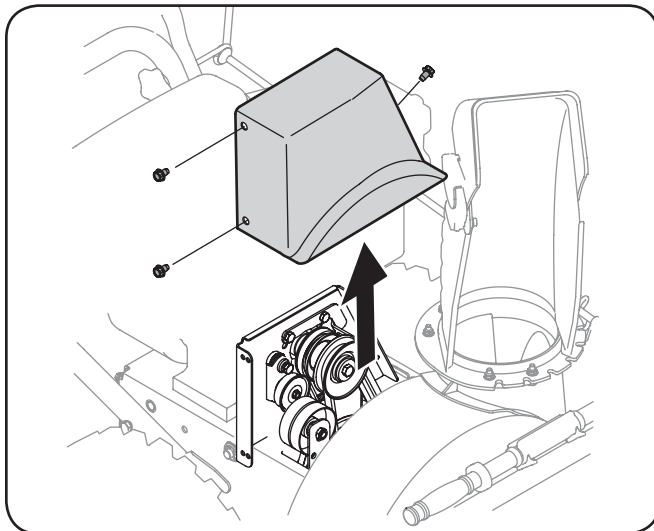

Figure 7-2
3. Remove the plastic belt cover on the front of the engine by removing the three self-tapping screws. See Fig. 7-2.